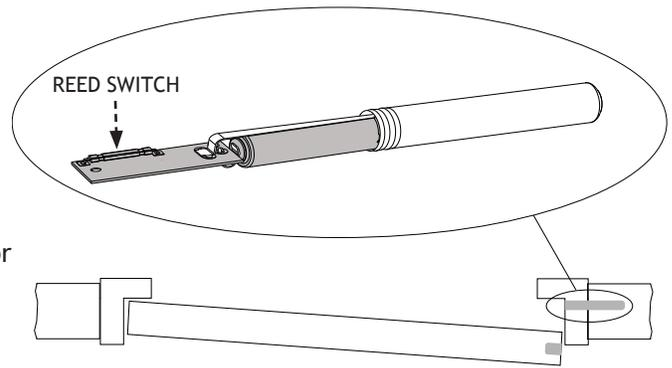

Figure 2: Left Hand Door Gap Distance
The travel distance is determined by installing the transmitter with the reed switch on the top side of the PCB or on the bottom side of the PCB. See Figure 2.
4. Place the 3.0V lithium battery in the holder as shown in Figure 2 with the negative end of the battery facing the transmitter printed circuit board and hold in place.